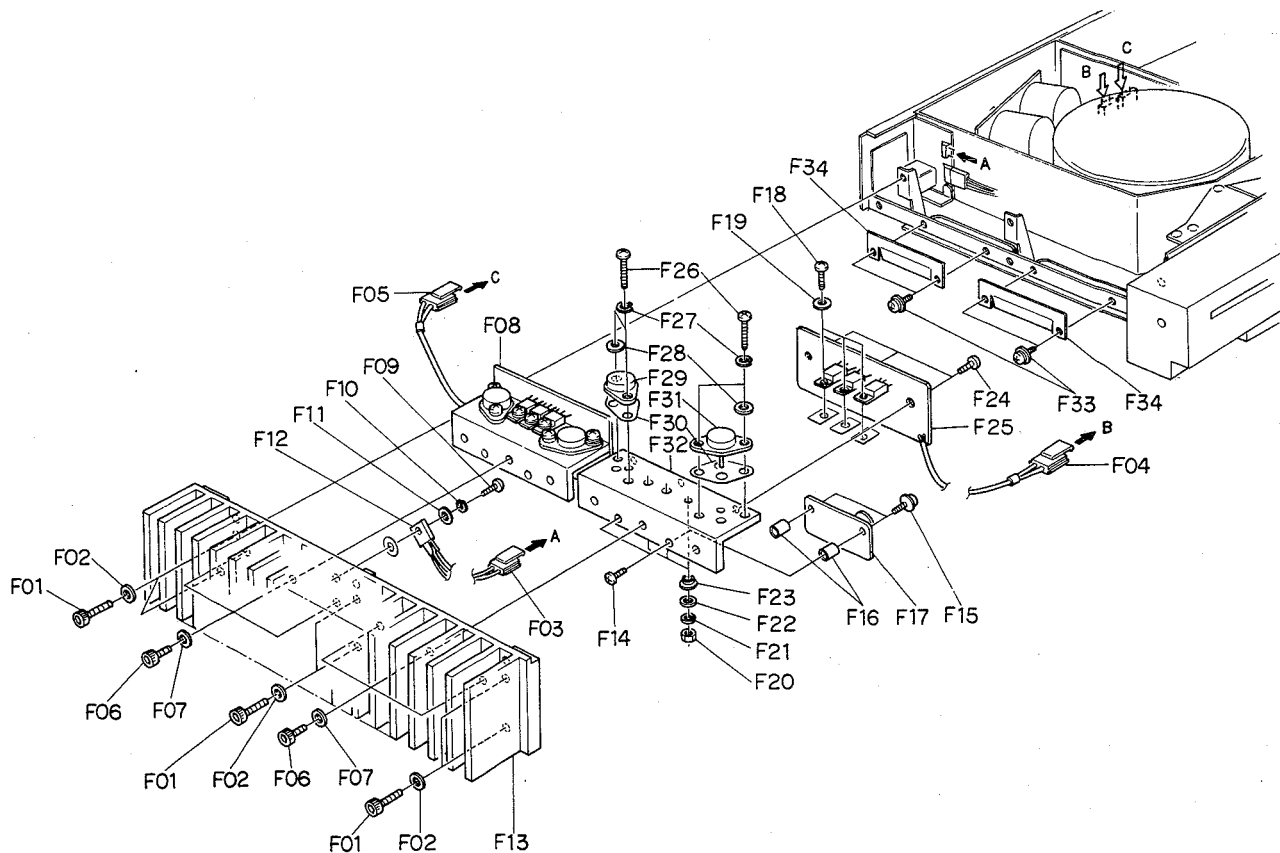

Fig. 3.14
Refer to Fig. 3.14. Remove Side Plate R and Covers referring to items 3.1 and 3.2.